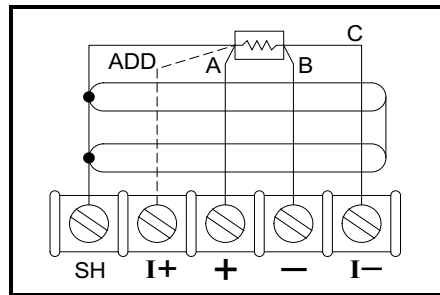

Figure 25: 3-Wire RTD to 4-Wire Input Card
The leads of most 3-lead RTD's are labeled A, B, and C. If your RTD is labeled this way, connect the two common leads to terminals (-) and (1-). Connect the other lead to (+). Add a fourth lead, and connect it to the single lead, as close to the RTD as possible. Connect the added lead to (1+) terminal. Since the current source is referenced to shield, connect the RTD sheath or shield to the (SH) terminal, as shown in Figure 25 on page 32, and terminate it at the source.